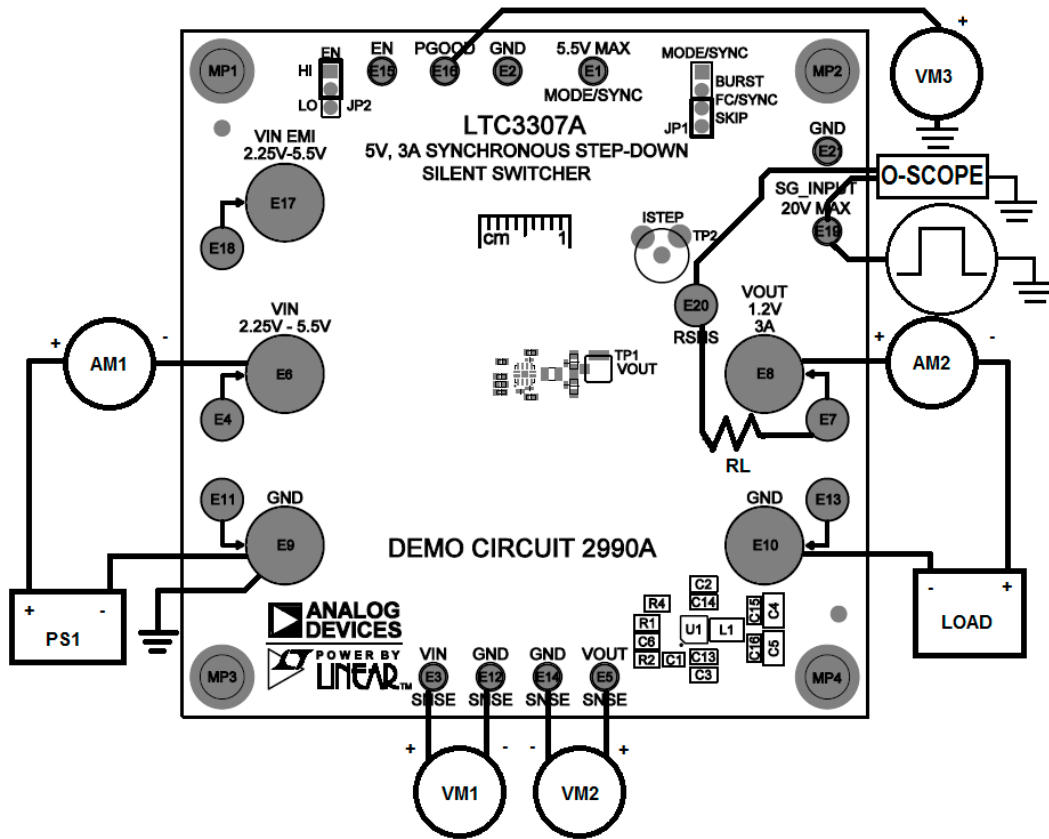

Figure 1. Test Setup for the DC2990A Demo Board
Demonstration circuit 2990A is easy to set up and evaluate the performance of the LTC3307A. Refer to Figure 1 for proper measurement equipment setup and follow the procedure below.
NOTE: For accurate V_{IN} , V_{OUT} and efficiency measurements, measure V_{IN} at the V_{IN} SNSE and GND SNSE turrets and V_{OUT} at the V_{OUT} SNSE and GND SNSE turrets as illustrated as VM1 and VM2 in Figure 1. When measuring the input or output voltage ripple, care must be taken to avoid a long ground lead on the oscilloscope probe.
13. To test the transient response with a base load, add the desired resistor to produce a minimum load between V_{OUT} and RSNS turrets (R_L shown on Figure 1). Note that the total load resistance will be R_L plus R11 (100m Ω).